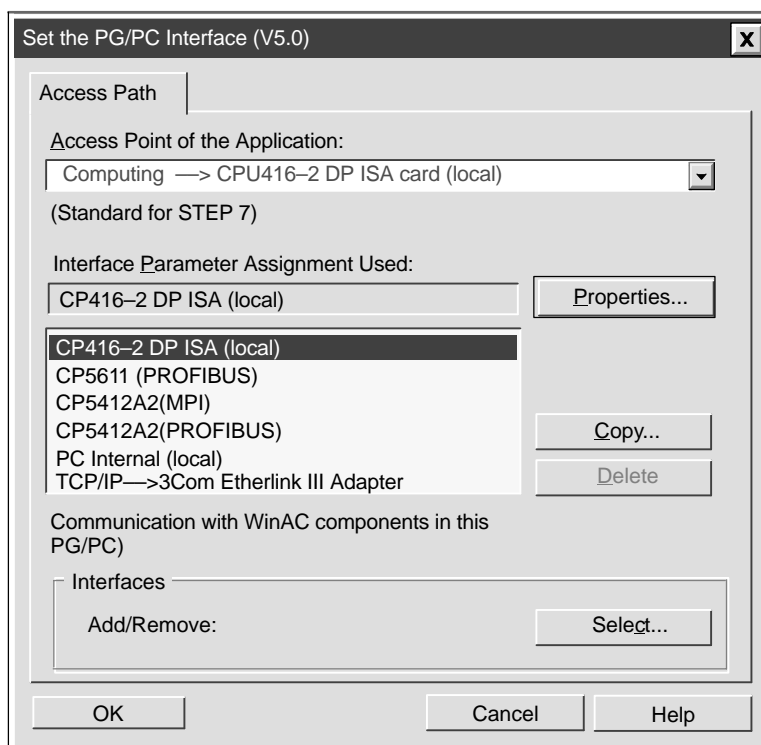

Figure 3-1 Setting the PG/PC Interface for Slot PLC CPU 416-2 DP ISA (local)
4. Select the interface parameter from the parameter set that corresponds to your network communications path, for example “CPU416-2 DP ISA (local)”. The PLC or card you selected appears in the Access Point of the Application field (Figure 3-1).